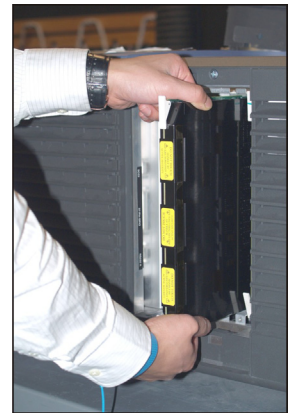

Figure 2 Board Removal
2. Wearing a grounded wrist strap, remove the non-secure interface board. First release the ejector tabs on board, then gently pull on the tabs to remove the board slightly from the cardcage. Handling the board along its taped edges only, carefully remove it from the cardcage and place it into a protective ESD sleeve. **(Figure 2)**.